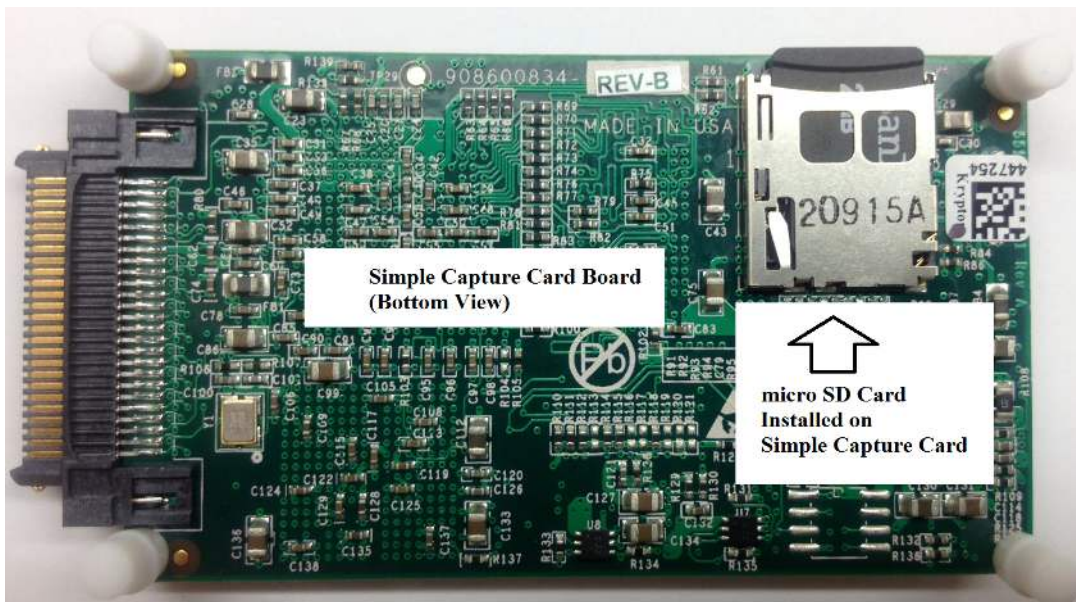
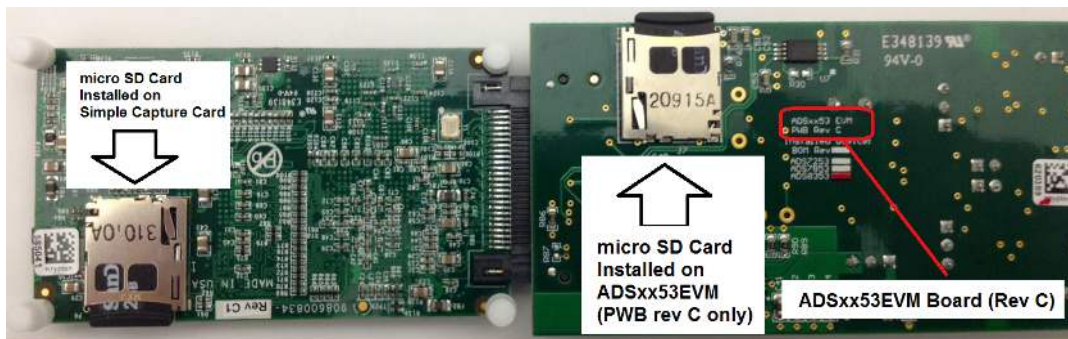

Figure 7. Bottom View of Simple Capture Card Board with microSD Card Installed
Figure 8. Bottom View of ADSxx53EVM Rev C with microSD Card Installed
Figure 7 illustrates the bottom view of the simple capture card controller board with the microSD card installed.
NOTE: ADSxx53EVM-PDK with ADSxx53EVM PWB Board revision C (only): This ADSxx53EVM PWB version includes (2) microSD cards. Ensure both microSD memory cards are installed in the microSD sockets on the back of the simple capture card board and on the back of ADSxx53EVM, as shown on Figure 7 and Figure 8 respectively.
- Step 1. Verify the microSD card is installed on the back of the simple capture card board; see Figure 7.